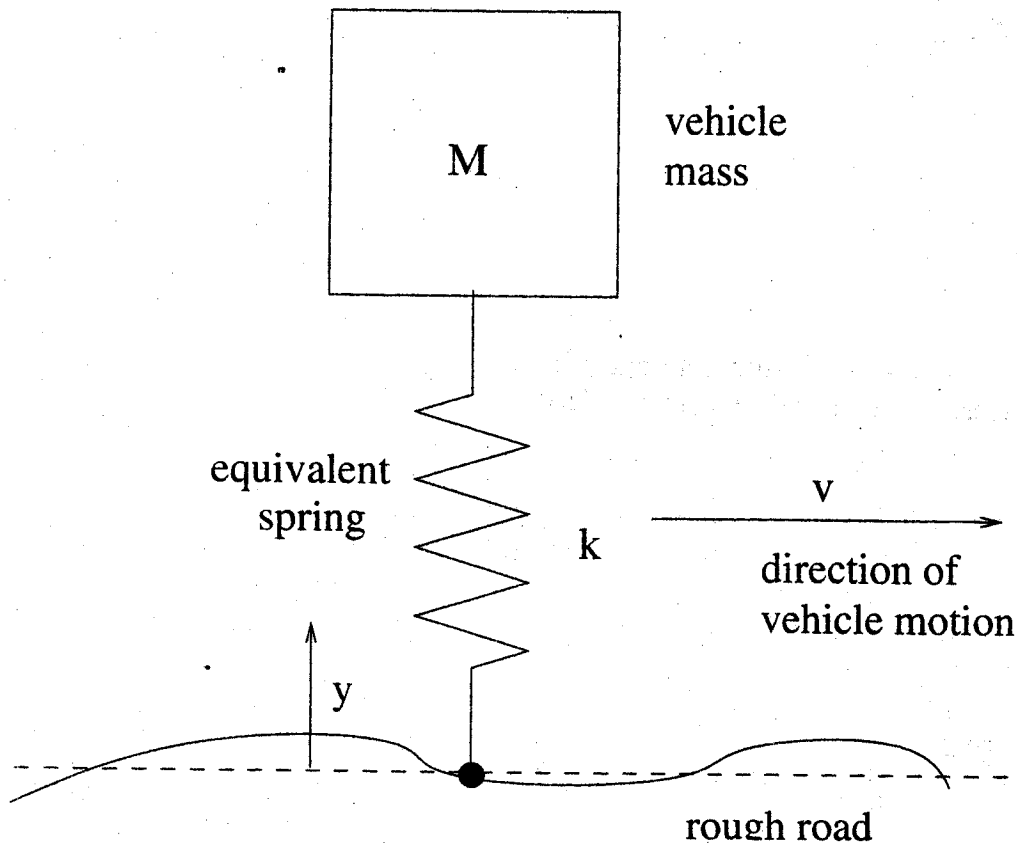

Figure 7
7. The model depicted in Figure 7 is the so-called unicycle model for studying the vertical vibrations of a vehicle travelling over a rough road. A spring mounted trailer has a mass of 500kg. and, during loading, it was observed that each 75kg. added caused the trailer to sag by 3mm. Determine the natural frequency of the system. If the undulations in the road can be represented as a sine wave with period 1.2m and height 50mm, determine: